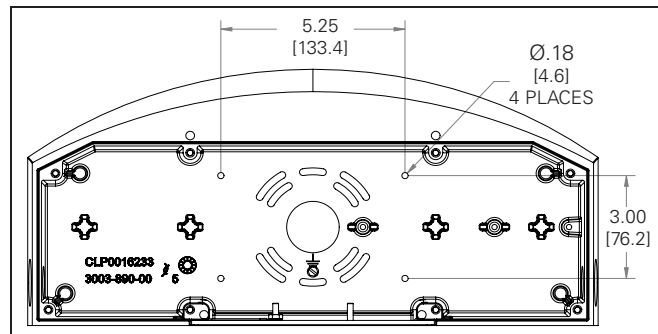

Figure 14.
3. Attach the BackBox to the wall using quantity 4 bolts 3/16" in size (by other). Use the proper bolt type for the wall material. (Figure 14)